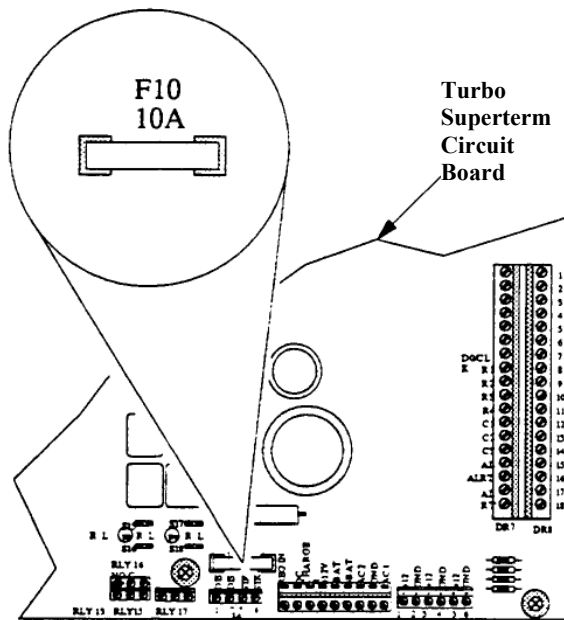

Figure 51 - Turbo Superterm Main Fuse Location
A 10-ampere (10A) slow-blow fuse protects the strike power circuit from faults and over current. The fuse is located on the lower right-hand edge of the circuit board above the STKPWR terminal strip (see Figure 51).
2. Using a non-conducting fuse puller, remove the old fuse (see Figure 51).